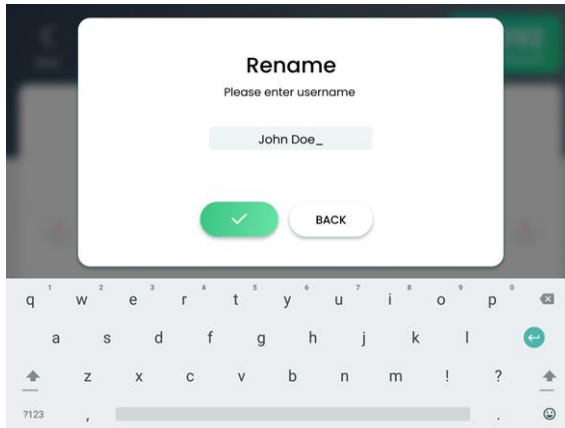

Figure 6-7. Rename Screen
3. Press the **Rename** button; the Rename screen appears, as shown in Figure 6-7.
4. Type the desired user name, using the virtual keyboard, as shown in Figure 6-7.